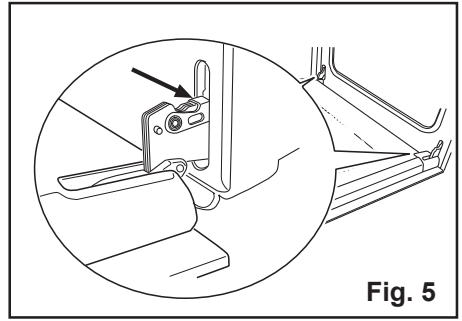

Fig. 5
2. locate the two door hinges (Fig. 5);